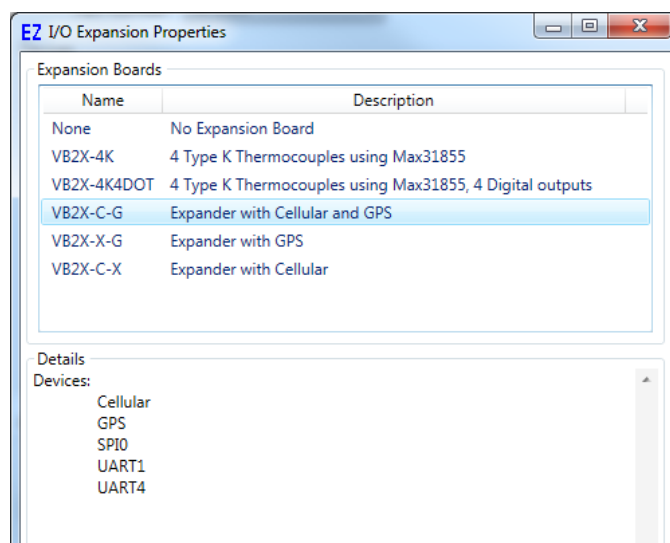

Figure 2-49- I/O Expansion Properties
4. Select the model of expansion board from the list of Expansion boards. Refer to Figure 2-49. The Details section of the window will update with the devices supported on the expander (for reference only) that will be installed in the project settings of the program.